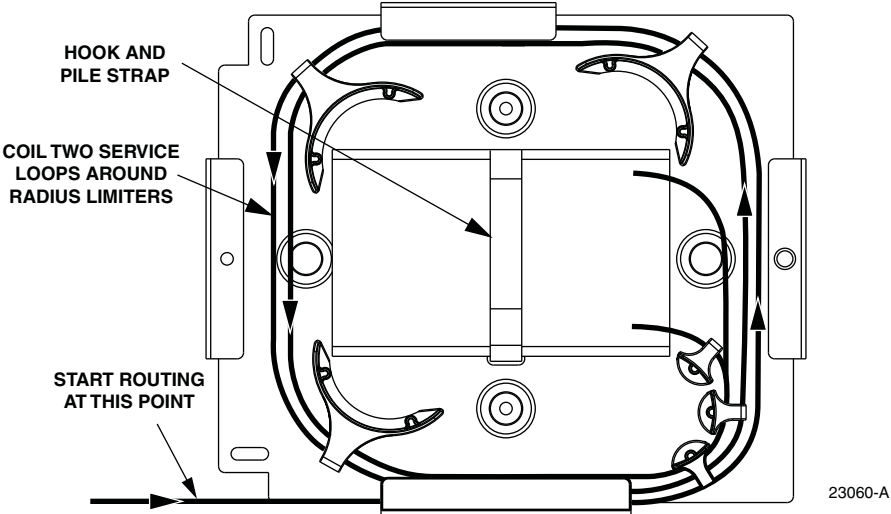

Figure 42. Feeder Splice Tray Replacement - Stranded Fiber Splicing
12. To replace the splice tray, route the attached subunits (there should be two service loops) around the splice tray holder radius limiters as shown in Figure 42. Avoid twisting or kinking the fiber subunit tubes. Maintain a 1.5-inch (3.81 cm) minimum bend radius for all non reduced bend radius fiber.